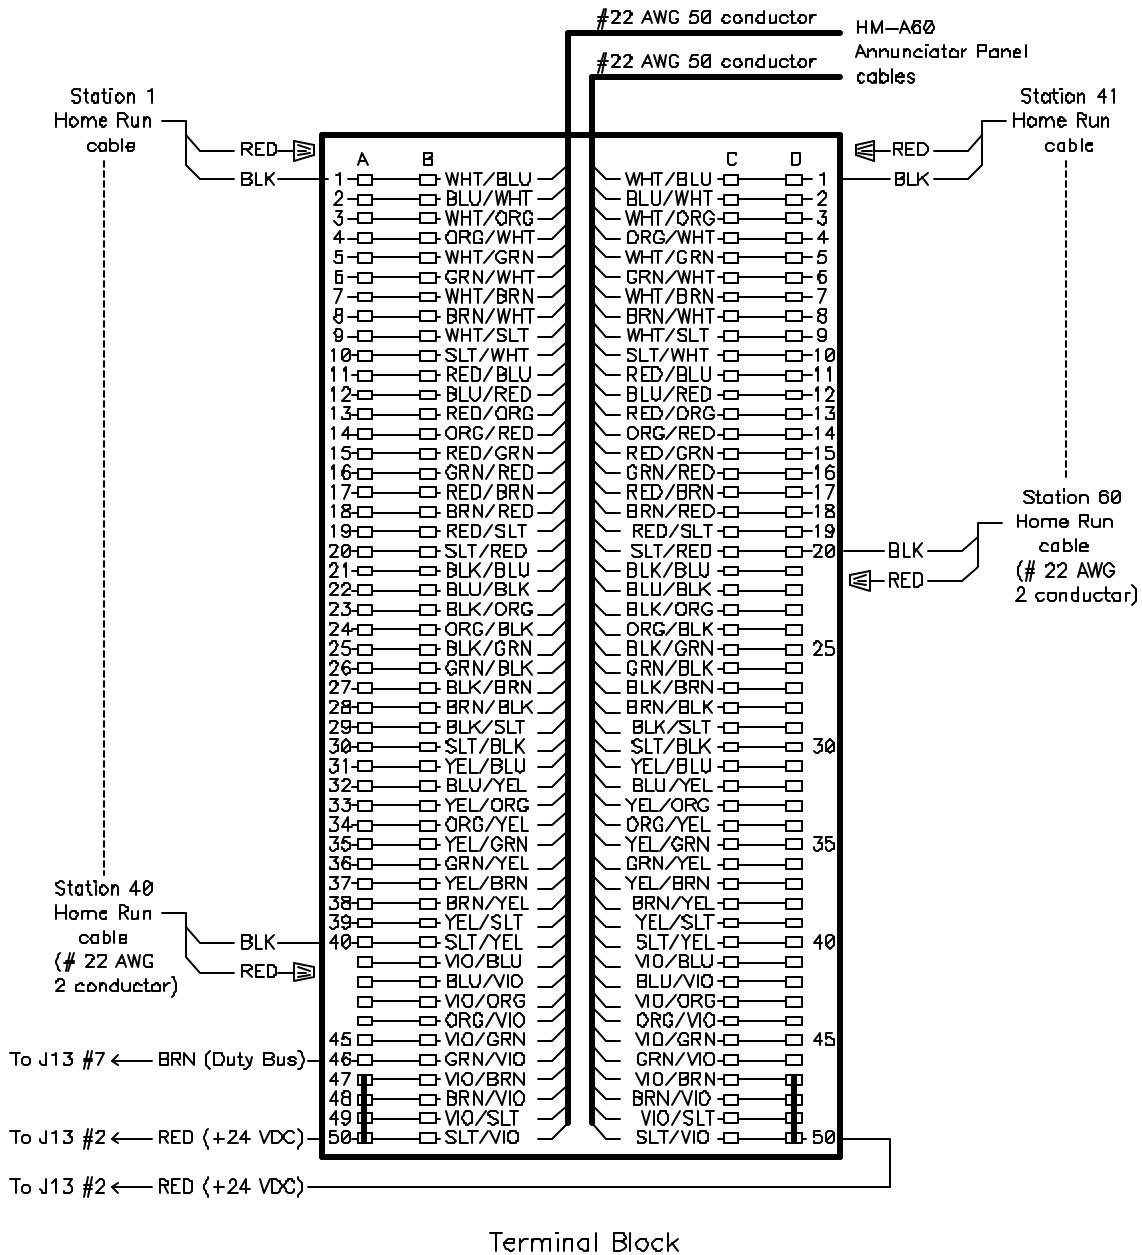

Figure 8. Terminal Block Connections for 60 Stations
Figure 8 shows connections for 60 stations
- 2 See Fig. 3 – Fig. 8 for terminal block connections